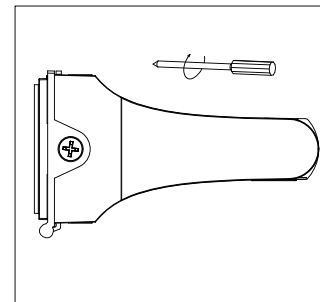
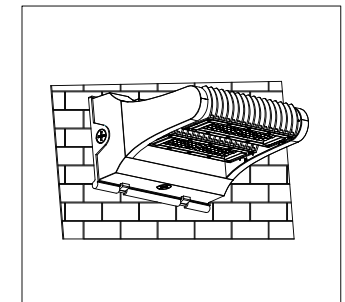

Figure 10
Figure 11
Step 7: Align the fixture and tighten the screws of the lamp base (Figure 10 & Figure 11) .